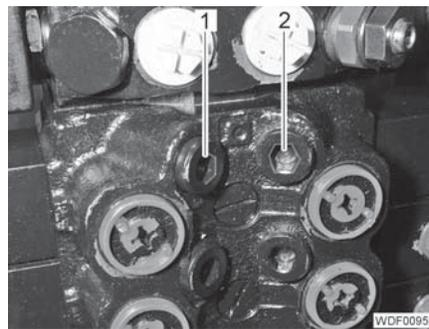

Fig. 181 Topside of the control valve
- Mark the secondary pressure control valves (Fig. 181,2) and plugs (Fig. 181,1) in order to prevent mix-ups.
- Unscrew the plug (Fig. 181,1).
- Unscrew the 3 secondary pressure control valves (Fig. 181,2).
- Screw in and tighten the 3 secondary pressure control valves (Fig. 181,2) hand-tight.
- Screw in the plug (Fig. 181,1) and tighten hand-tight.